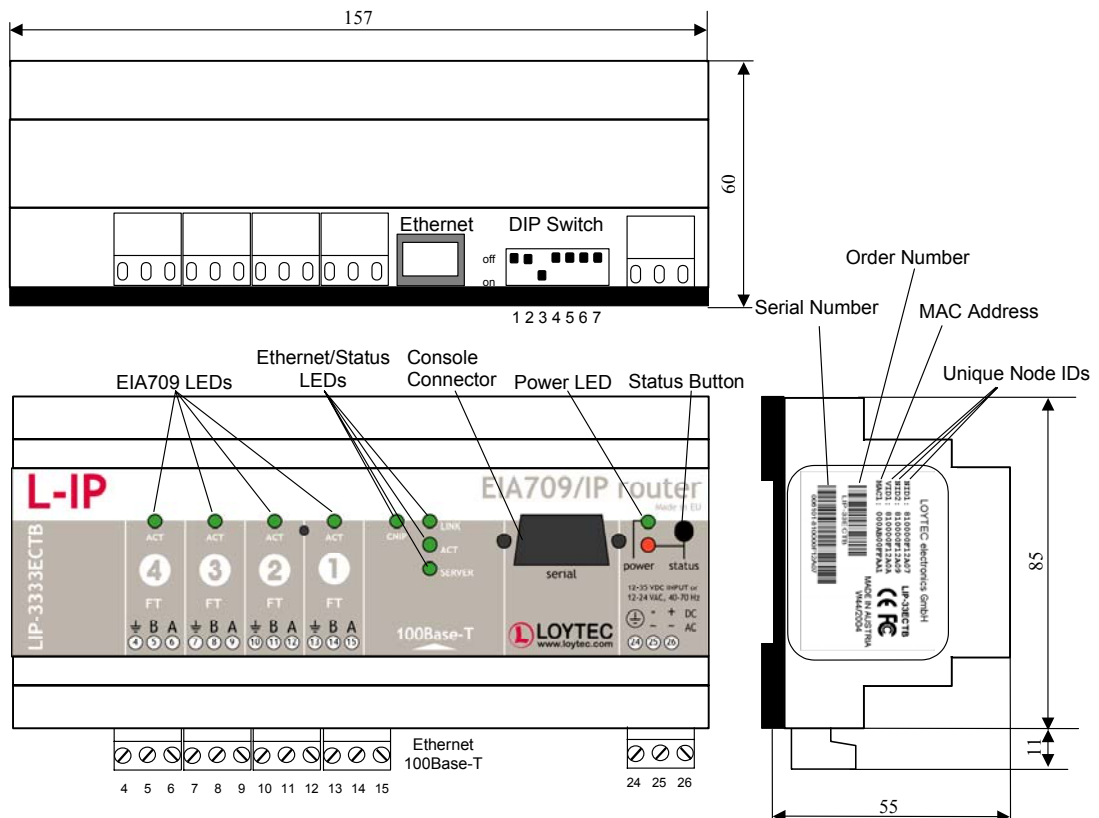

Figure 16: Large multi-port L-IP enclosure (dimensions in mm)
The large multi-port L-IP(B) enclosure is 9 TE (1 TE = 17.5 mm) wide for DIN rail mounting, following DIN 43 880 (see Figure 16).